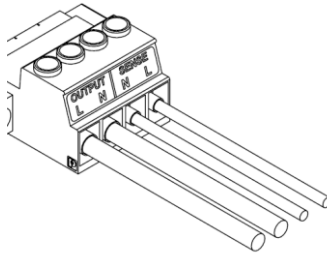

Figure 7-15: Inserting the Wires
5. Insert the wires into the terminals as shown in **Figure 7-15** and tighten the terminal screws securely using a tightening torque of 6.2–7.1 lbf-inch (0.7–0.8Nm).